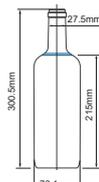
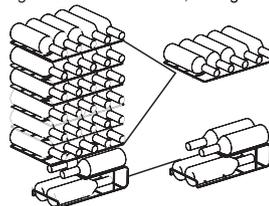

Fig.1
Fig.2
- The capacity for bottle storage in the wine cabinet (WS 9635 shown as Fig.2) is based on the following marked bottle size (Fig.1). Oversized bottle may have impact on the number of bottle storage in the wine cabinet.
- For model WS 9635: The recommended maximum bottling volume is 34 bottles, as Fig.2